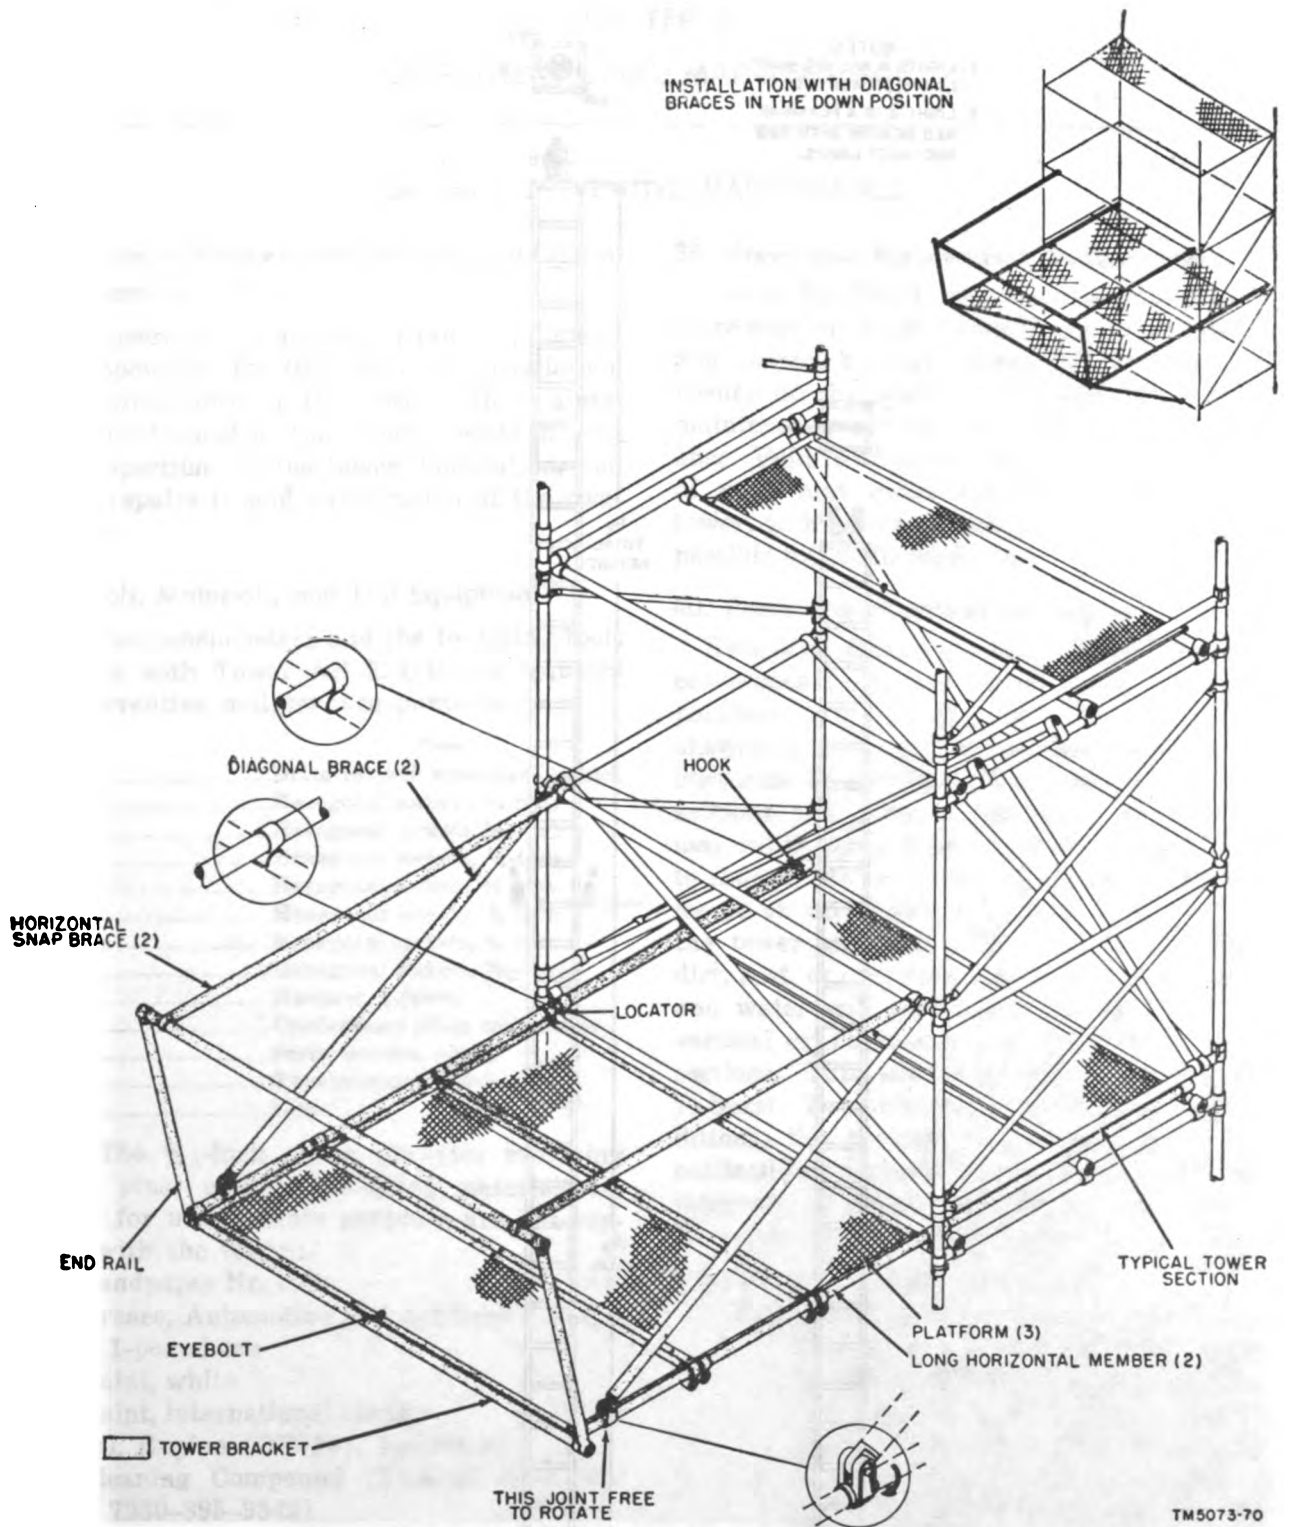

Figure 41. Installation of Scaffold Tower Bracket MT-1157/G.
Scaffold Tower Bracket MT-1157/G (fig. 41) can be mounted on either of the wide sides of any tower section to provide additional platform area. It must be mounted at the same level as the platform of the tower section to
e. When the folded scaffold is in position, pull it toward the tower by grasping the hook ends of the long horizontal members. Guide both long horizontal members of the scaffold through the tower and engage the hook ends with the horizontal members on the far side of the tower section. The locator, welded to the long horizontal member of the scaffold (fig. 41) should rest on the top horizontal member on the near side of the same tower section.